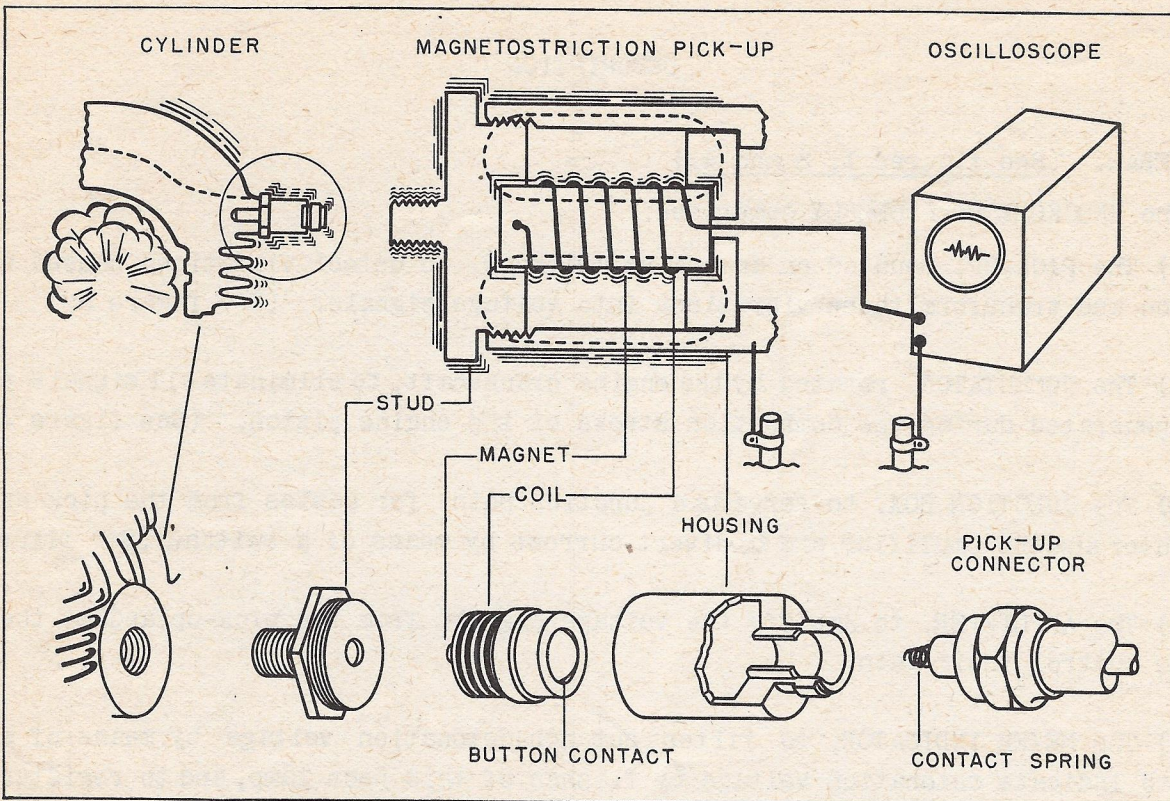

Figure 5 - Schematic of Pick-Up Operation
a. MAGNETOSTRICTION PICK-UP. (See figures 5, 6 and 7.) - The pick-up transforms the mechanical vibrations of the cylinder wall into electrical signal impulses.
(1) The force exerted by engine vibration on the magnet (figure 5) of the pick-up produces stress variations. The stress variations produce flux changes in the surrounding coil thereby inducing an a-c voltage. The voltage so generated is proportional to the rate of change of stress on the magnet and is, therefore, a function of the amplitude and frequency of vibration.